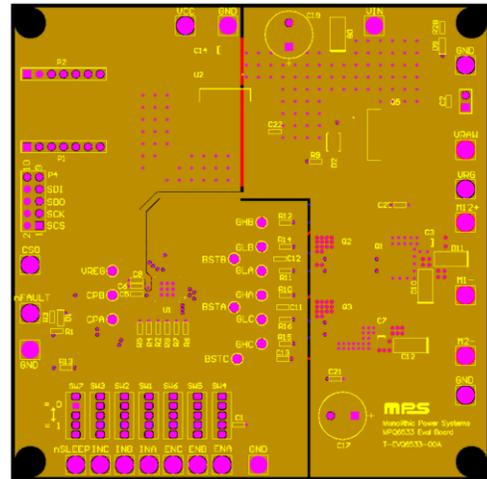

Figure 10: Recommended PCB Layout with a Power Plane
A second example for the PCB layout uses a power plane. Four layers are used to provide solid planes for the ground and supply voltage. For the best results, refer to Figure 10 and Figure 11, and follow the guidelines below:
1. Route VIN on the right portion of the plane, and connect it to the MOSFET's input power and bulk capacitors (C17 and C19). The left portion of the plane is used as a redundant ground plane (see Figure 10).